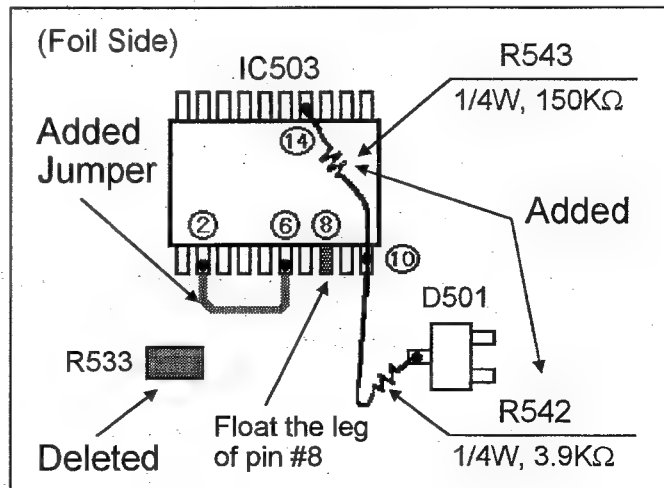

Fig. 2 Page 3-7 (G-3)
- 2). Delete resistors R267 and R533 (1/10W, 2.2K $\Omega$ ) and R268 (1/10W, 220 $\Omega$ ) from the foil side as shown in figures 2, 3, 4 and 5.
- 3). Float the leg of pin # 8 of IC258 and IC503 on the foil side as shown in figures 2, 3, 4 and 5.
- 5). Add a resistor R542 (1/4W, 3.9K $\Omega$ ) between pin #10 of IC503 and cathode of D501 on the foil side as shown in figures 2 and 4.
- 6). Add a resistor R543 (1/4W, 150K $\Omega$ ) between pins #10 and #14 of IC503 on the foil side as shown in figures 2 and 4.
- 8). Connect a jumper wire between pins #2 and #6 of IC503 on the foil side as shown in figures 2 and 4.